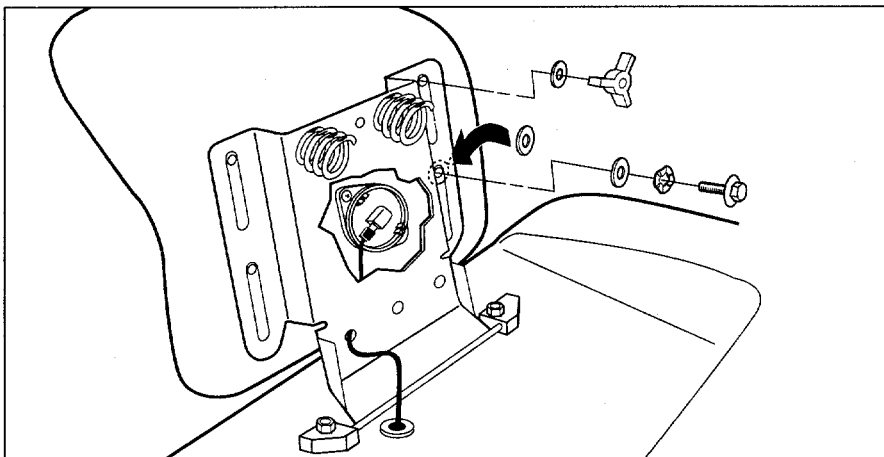

Figure 2-6: Remove hardware from seat first. Place seat on seat support. Mount knobs and washers at rear. Mount screws and washers at front.
2. Place the seat on the seat support. Very loosely secure the rear of the seat to the seat support with the two knobs and the two flat washers that accompanied them. Refer to Figure 2-6.
3. At the front of the seat, slide a metal washer between the seat and the seat support (see Fig. 2-6). Next slide a wave washer and then a nylon washer on each of the two screws and insert the screws from underneath the seat support. The screws must pass up through the seat support, the metal washer and the seat frame. See Figure 2-6. Securely tighten the screws.